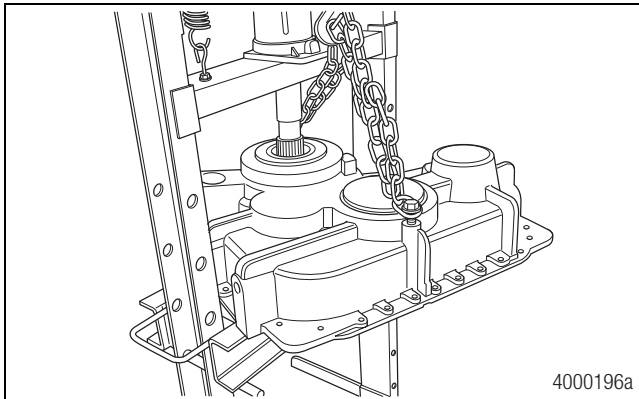

Figure 5.26
1. Set the rear cover with the rear output shaft as an assembly into a suitable press. Figure 5.26.
2. Press the rear output shaft assembly out of the rear cover. Figure 5.26.